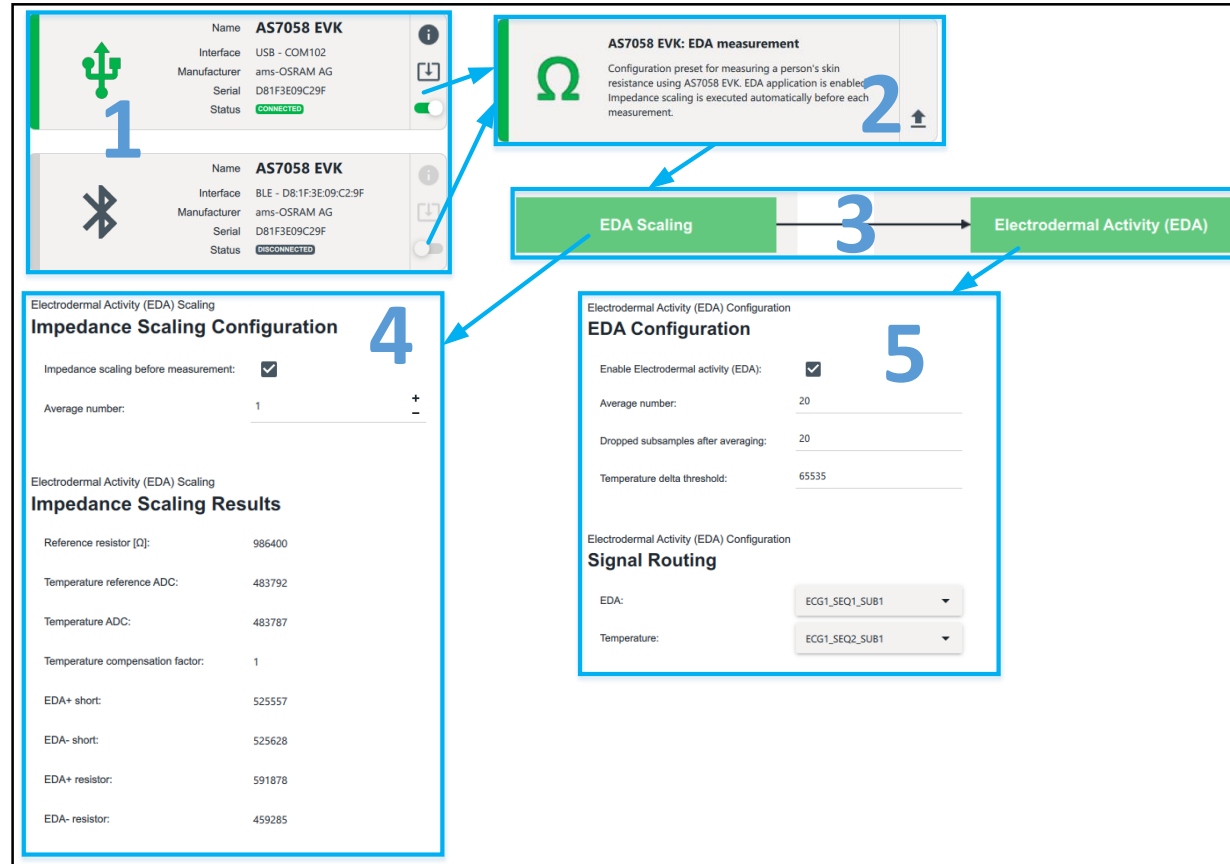

Fig. 22: EDA Application Tab
- Based on the AS7058EVK, typical values of the impedance scaling are already entered in the "Impedance Scaling configuration" block, which is shown in Fig. 22 as number 4 in the "EDA Scaling" block.